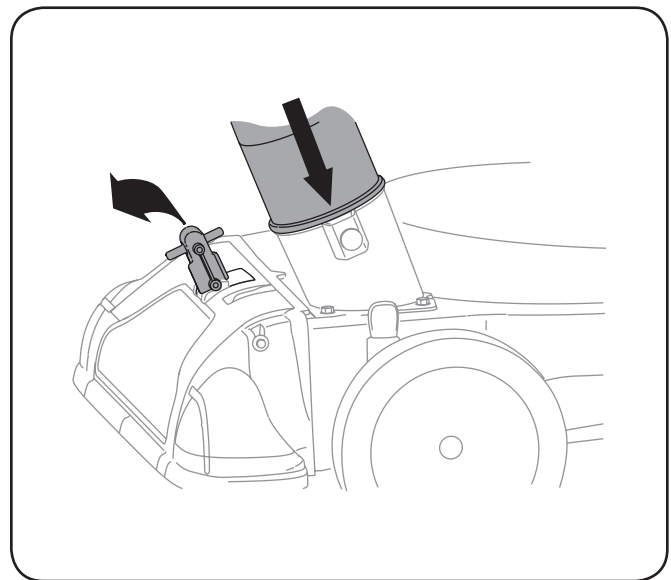

Figure 5-5
1. Place nozzle/hose vac lever in the bottom position on the nozzle to redirect vacuum to the hose assembly. See Fig. 5-5.
2. The spring loaded pin must be in the second hole of the hose adapter to operate the hose assembly. See Fig. 5-5.